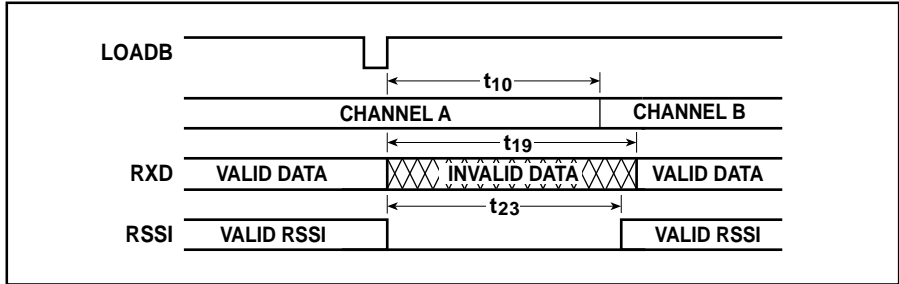

Fig. 6 Receive-channel hop-receive timing diagram (RX/TX = 1)
**15. Frequency Hop Time to Valid Received Data ( $t_{19}$  – see Figs. 6 and 7)**
**24. Frequency Hop Time to Valid RSSI ( $t_{23}$  – see Fig. 6)**